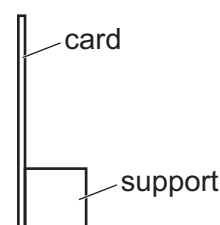

Fig. 2.2
- (iv) plain white screen. A sheet of stiff white card approximately 15 cm × 15 cm, fixed to a wooden support, is suitable (see Fig. 2.2)